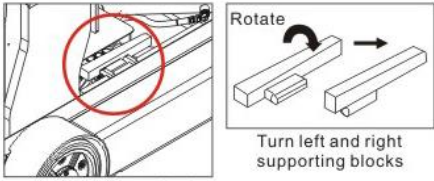

Fig. 1
2. Get off the truck and turn the battery supporting blocks in the left and right sides to be vertical. (refer to figure 1)